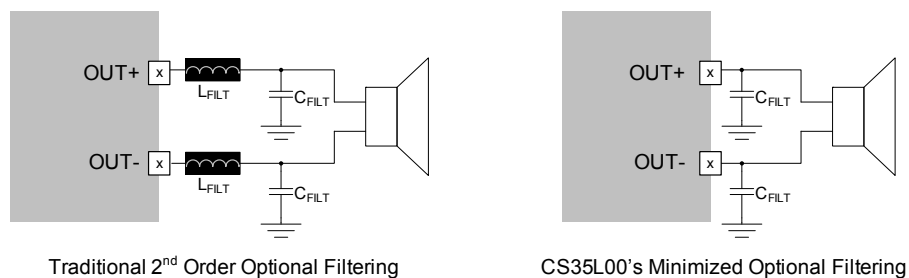

Figure 5. Optional Output Filter Components
In applications which require an output filter, the unique design of the CS35L00 allows a much smaller, less expensive output filter to be used than what is normally found in Class D amplifiers. In contrast to a second order filter implemented with a series inductive element (traditional inductor or ferrite beads) and a shunt capacitive element, basic filtering for the CS35L00 is accomplished by a single-order capacitive element attached to the OUTx terminals. This is highlighted in Figure 5 below. Of course, if the system requires more aggressive filtering, a ferrite bead can be added in series with the outputs to further attenuate system level noise.
Selection of the filter components should ensure that shunt elements (i.e. C_{FILT} in Figure 5 on page 17) present a very low impedance at the frequency corresponding to the tallest peak in the spectral plot. If needed, series components such as ferrite beads (i.e. L_{FILT} in Figure 5 on page 17) should be chosen to present a very high impedance at the frequency corresponding to the tallest peak in the spectral plot.
16. "Idle Current Draw vs. VBATT - SD Mode" capacitor values refer to C_{FILT} when configured as the "CS35L00's Minimized Optional Output Filter", shown in Figure 5 on page 17.